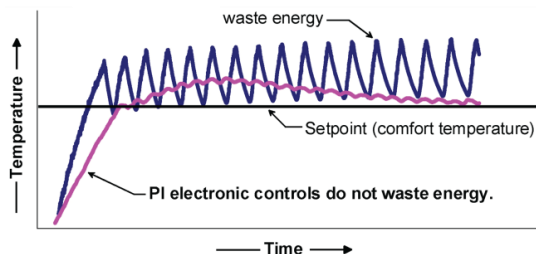

Fig.2 - On/Off mechanical control vs PI electronic control.
1. Swing open the Terminal Equipment Controller PCB to the left by pressing the PCB locking tabs (fig. 2).
7. Insert screws in mounting holes on each side of the base (fig. 2).